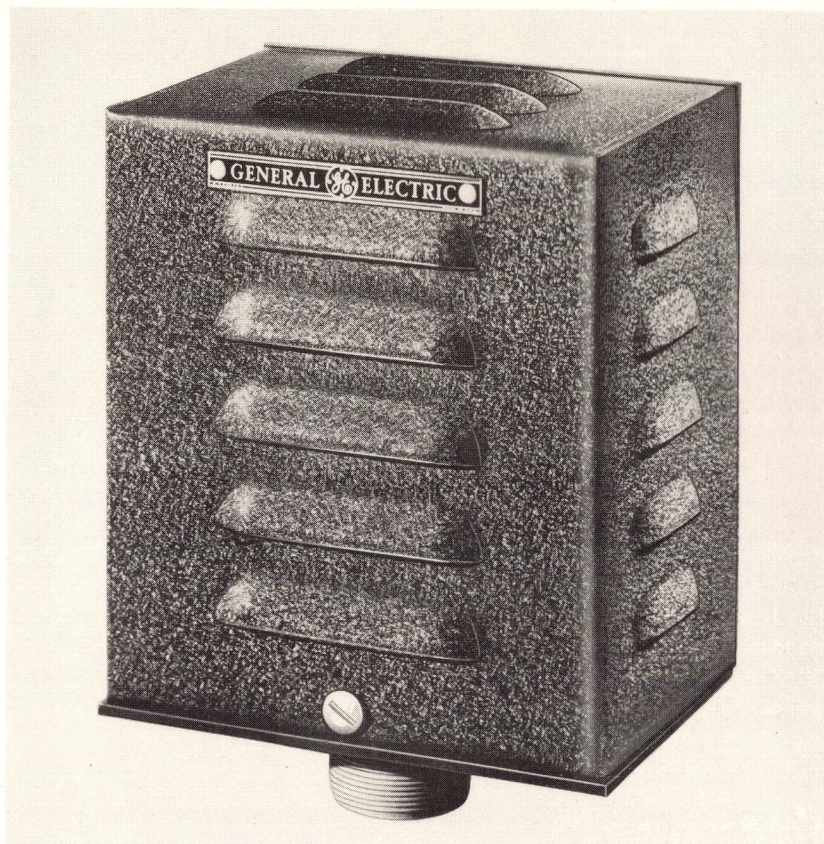
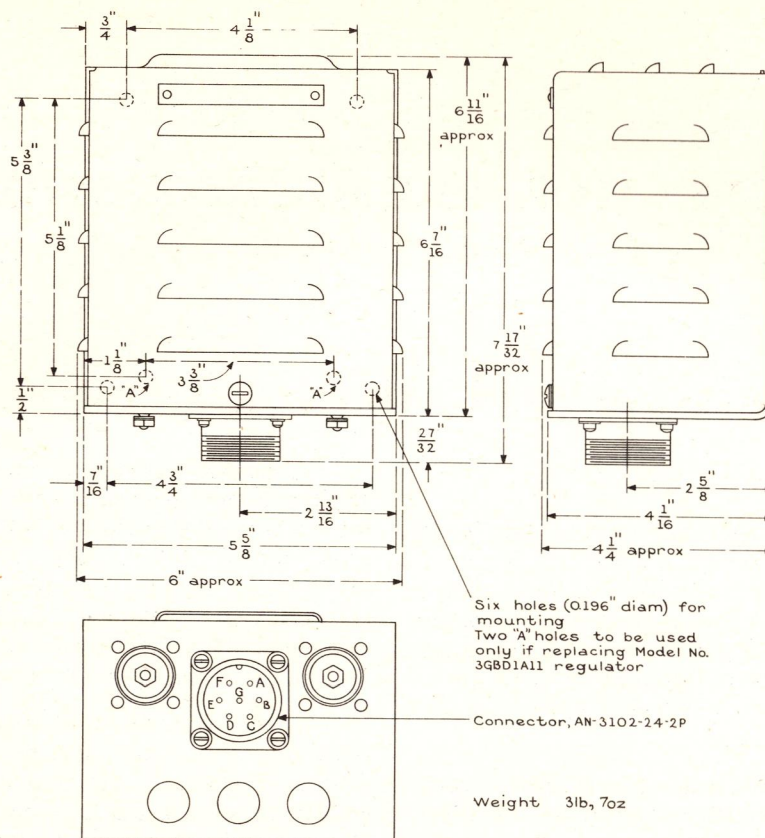

Fig. 1. Generator-voltage regulator, Model 3GBD1A18
Fig. 3. Outline and mounting dimensions of regulator
The following instructions cover the Model 3GBD1A18 Generator-voltage Regulator, shown in Fig. 1 and 2. The regulator is for use on aircraft and operates to maintain a constant output-voltage on 30-volt direct-current generators. The regulator is also used to equalize generator load in installations involving the use of two or more generators connected in parallel.
The regulator should be mounted in a vertical position as shown in Fig. 1 and 2, since, in this position, heat from the regulating resistor (57) will tend to flow away from the rest of the regulator, and the most effective use is made of the shock mountings. Four holes are provided for mounting. Outline and mounting dimensions are shown in Fig. 3.